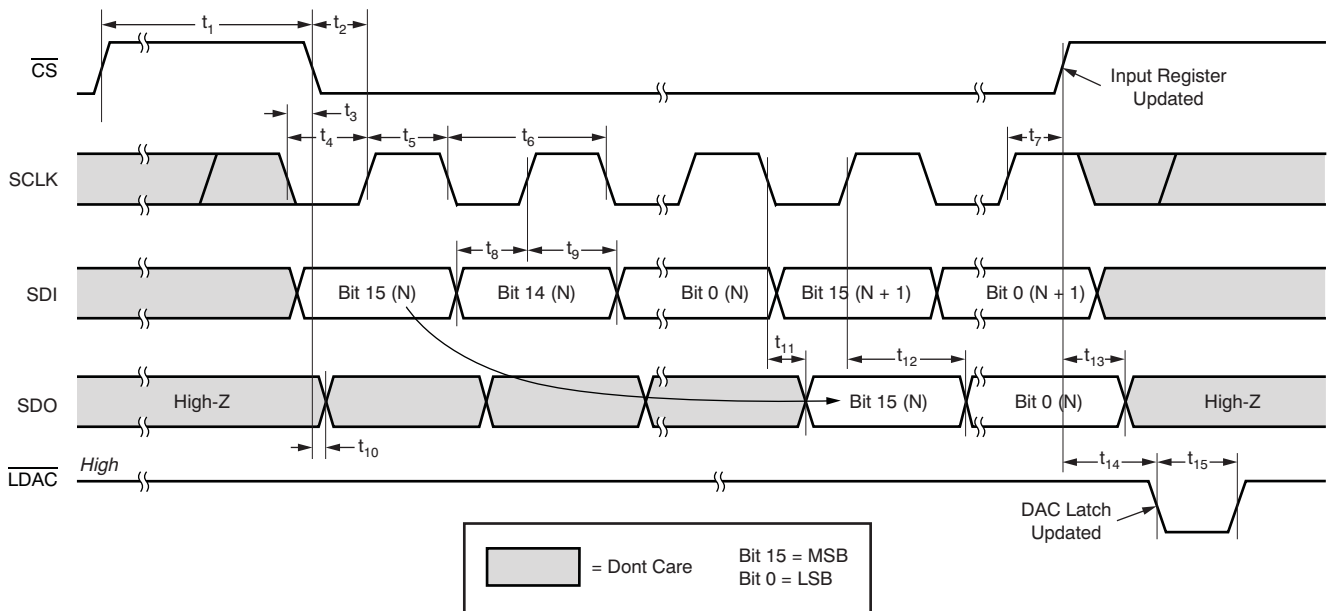

Figure 3. Timing Diagram of Daisy Chain Mode, Two Cascaded Devices
- (1) All input signals are specified with $t_{\text{R}} = t_{\text{F}} = 2\text{ns}$ (10% to 90% of IOV_{DD}) and timed from a voltage level of $IOV_{\text{DD}}/2$.
- (2) Specified by design. Not production tested.
- (3) Sample tested during the initial release and after any redesign or process changes that may affect these parameters.
6.7 Timing Characteristics for Figure 2 and Figure 3 (1) (2) (3)